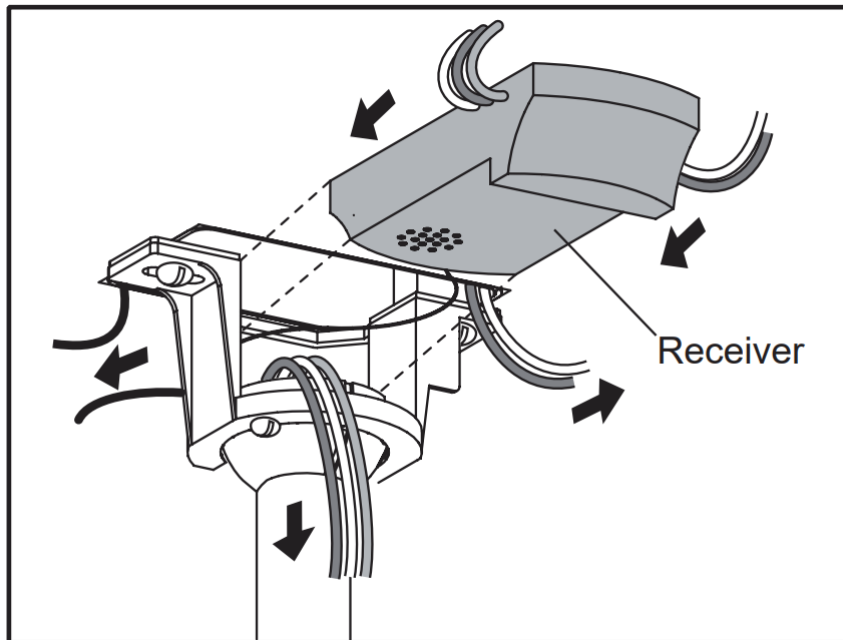

Fig. 15
12. Carefully insert the Remote Receiver above the hanger ball in the remainder spacing in the mounting bracket. Take care not to damage or loosen any of the wiring. (Fig. 15)